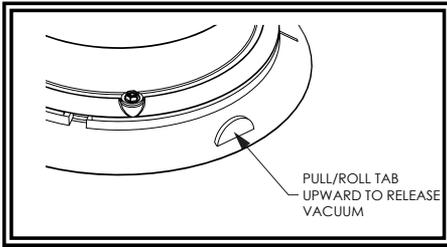

Figure 2
**Temporary Mounting, Vacuum-Magnet Mount:** The Vacuum-Magnet Mount feature includes a suction cup on the bottom of the beacon, with a magnet inside of the suction cup, for a secure, temporary mount. The beacon should be placed in the center of the roof where the least amount of curvature occurs. Before installing, make sure the mounting surface is clean and there is no debris on the bottom of the beacon or on the roof of the vehicle, which could reduce the holding power of the suction cup and magnet. Place and remove the beacon without sliding to avoid scratching the paint on the vehicle. After placement, the beacon should adhere firmly to the surface. If the unit slides or moves easily, a proper installation has not been obtained. To release the vacuum, lift the tab to release the airlock (see Figure 2). To protect the Vacuum-Magnet Mount assembly, return the beacon to the box when not in use. **Do not attempt to attach the beacon to an ice-covered surface.**